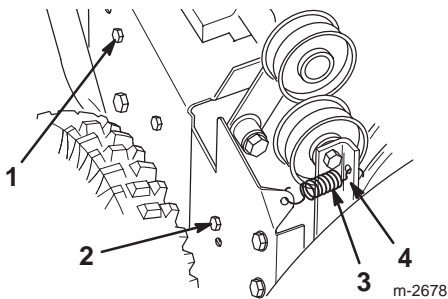

Figure 25
2. Bolt (3)
4. Loosen the auger brake arm assembly by loosening the rearmost screw and removing the front screw (Fig. 25).
5. Remove the idler pulley spring (Fig. 25). Let the brake arm assembly hang free but out of the way.
4. Loosen the auger brake arm assembly by loosening the rearmost screw and removing the front screw that fasten the auger brake arm assembly to the frame (Fig. 25).
5. Remove the idler pulley spring (Fig. 25). Let the brake arm assembly to hang free but out of the way.